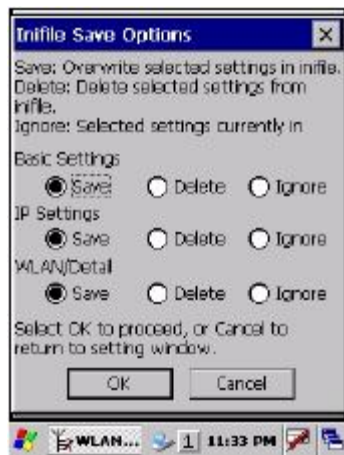

Figure 6.5
5. If **OK** button in the popup warning message (see Table 6.7 for description of NetUI/NetUI radio button) is clicked, the screen in Figure 6.5 appears. Click **OK** button to perform a reset on the terminal so that the setting becomes effective.